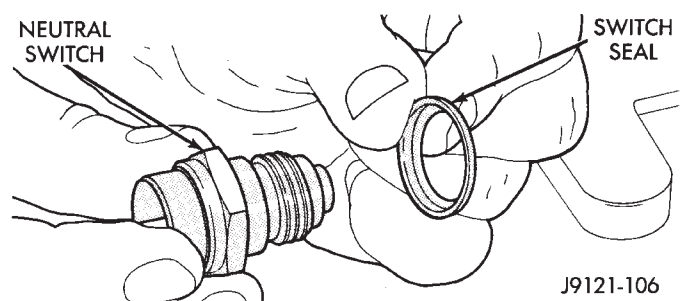

Fig. 170 Park/Neutral Position Switch Seal Position
(56) Install seal on park/neutral position switch (Fig. 170). Then install and tighten switch to 34 N·m (25 ft. lbs.).